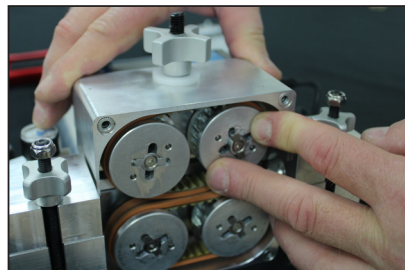

Figure 32.
- c. Push wheels back evenly and turn cross shaft to opening (Figure 32).